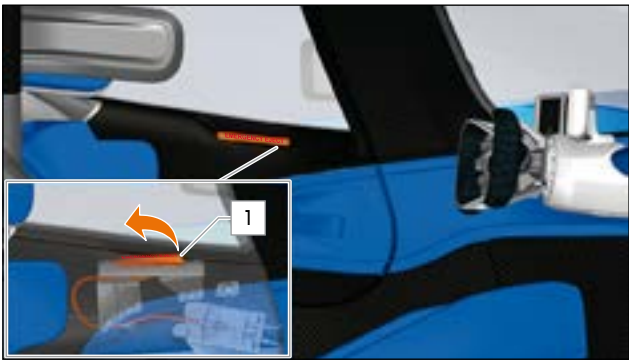

FIG.47 EMERGENCY RELEASE LEVER OPEN ON THE DRIVER AND PASSENGER SIDE
2. When lever 1 (» Fig.47) is in the released upper position, pull lever 1 (» Fig.47) in the **direction of the arrow** to unlock the mechanism.